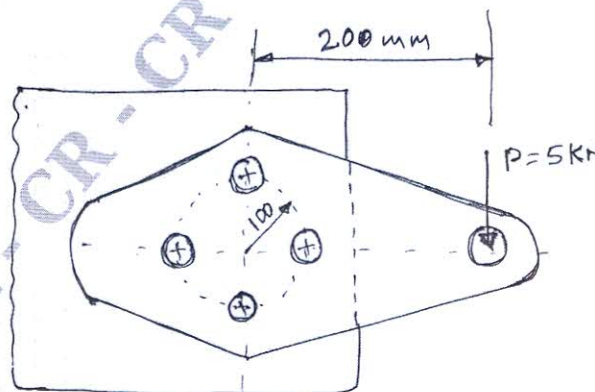

Fig.Q7(b)
- b. A riveted joint is consisting of four identical rivets is subjected to an eccentric force of 5kN as shown in Fig.Q7(b). Determine the diameter of rivets, if the permissible shear stress is 60MPa.